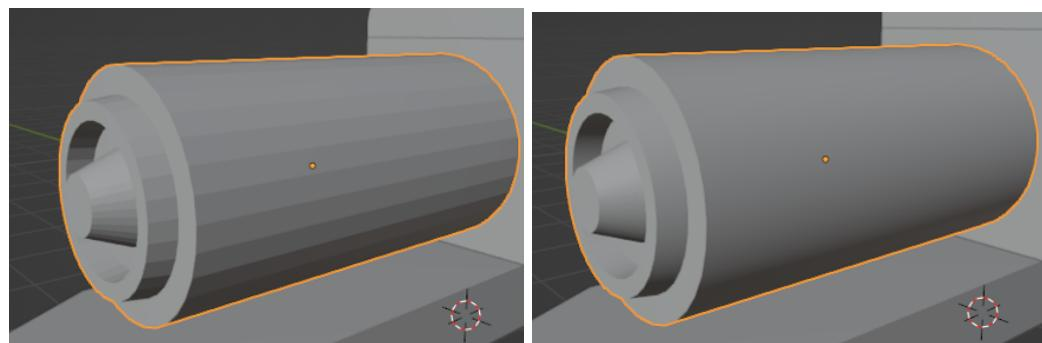

Figure 1.28: Autosmoothing of the object surface.
6. To change shading of the smokebox (see Fig.1.28):